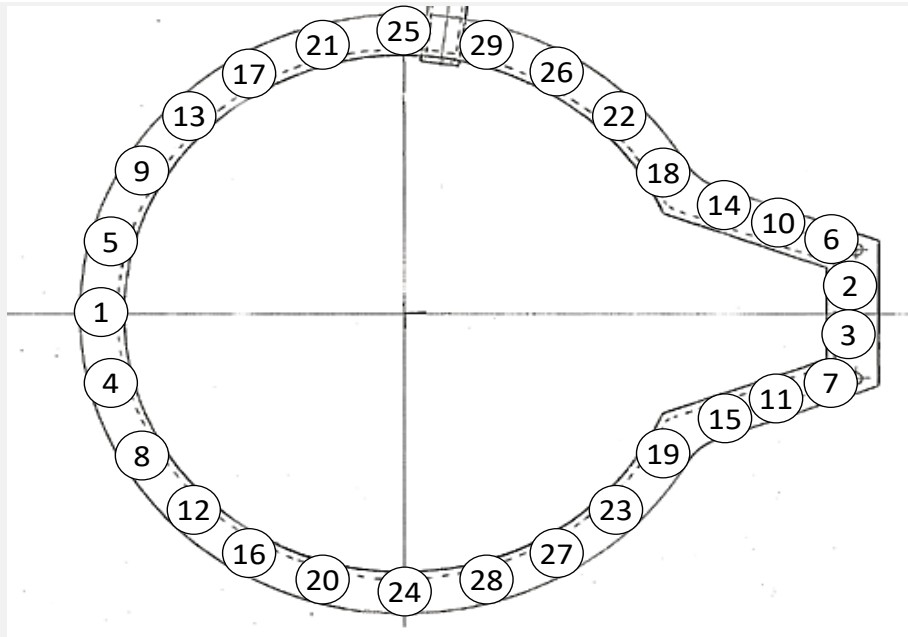

Figure 1: Illustration of 'Spiral Pattern' for tightening sequence of bolts/nuts
5.3.	Torque bolts/nuts in a clockwise "SPIRAL" pattern to the required torque value of 210 Nm as shown in Figure 1. Start at Position 1 and move sequentially up to Position 29. Repeat this sequence three (3) times as follows: